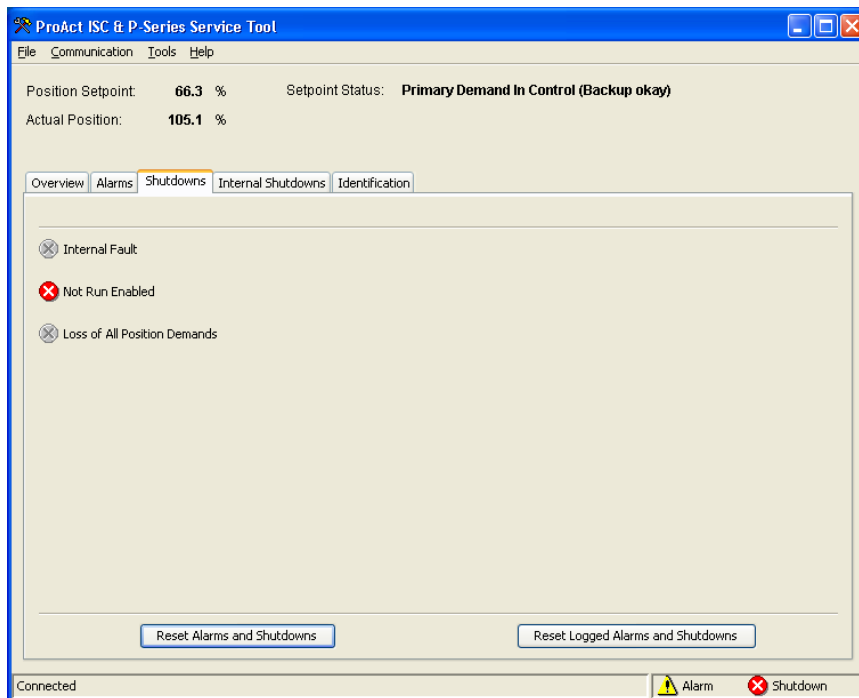

Figure 4-3. Service Tool—Shuttdowns Tab
The Service Tool software resides on a PC (personal computer) and communicates to the ProAct P-Series FL through terminals 18, 19, and 20 (see Figure 4-3 and the wiring instructions in Chapter 3).
- Shutdowns, (see Figure 4-3)
To monitor the shutdown conditions, go to the Shutdowns and the Internal Shutdowns pages (Figures 4-3 and 4-4) on the main window. The values displayed on the Shutdowns screen dynamically change with the fault configuration.